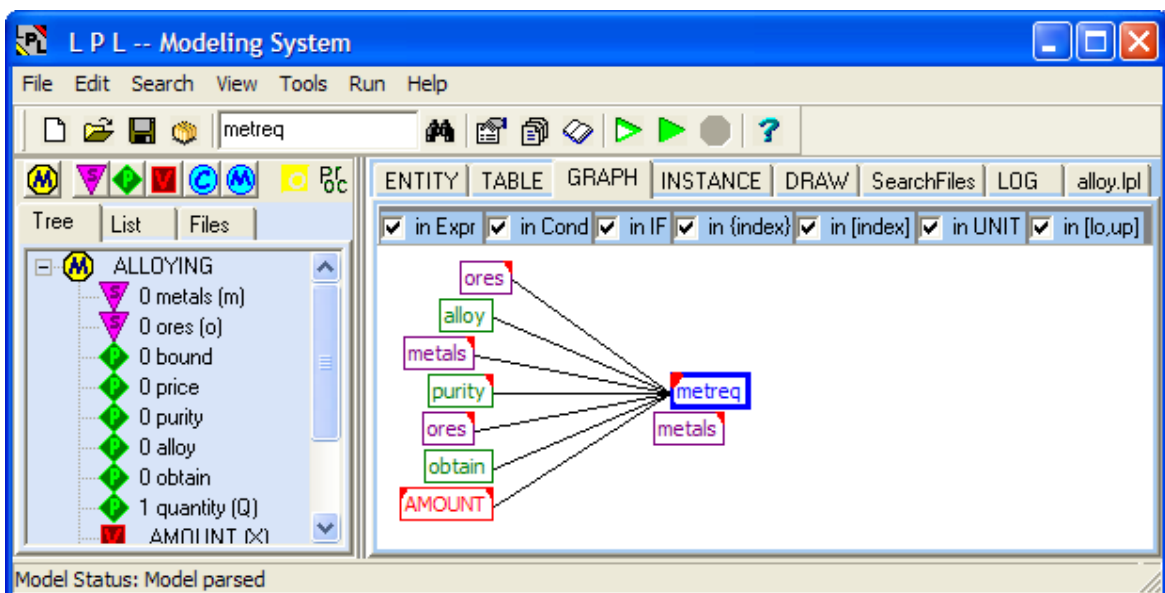

Figure 19: The Dependencies of "metreq"
- Click on this box "metreq". The focus is now "metreq" (see Figure 19).